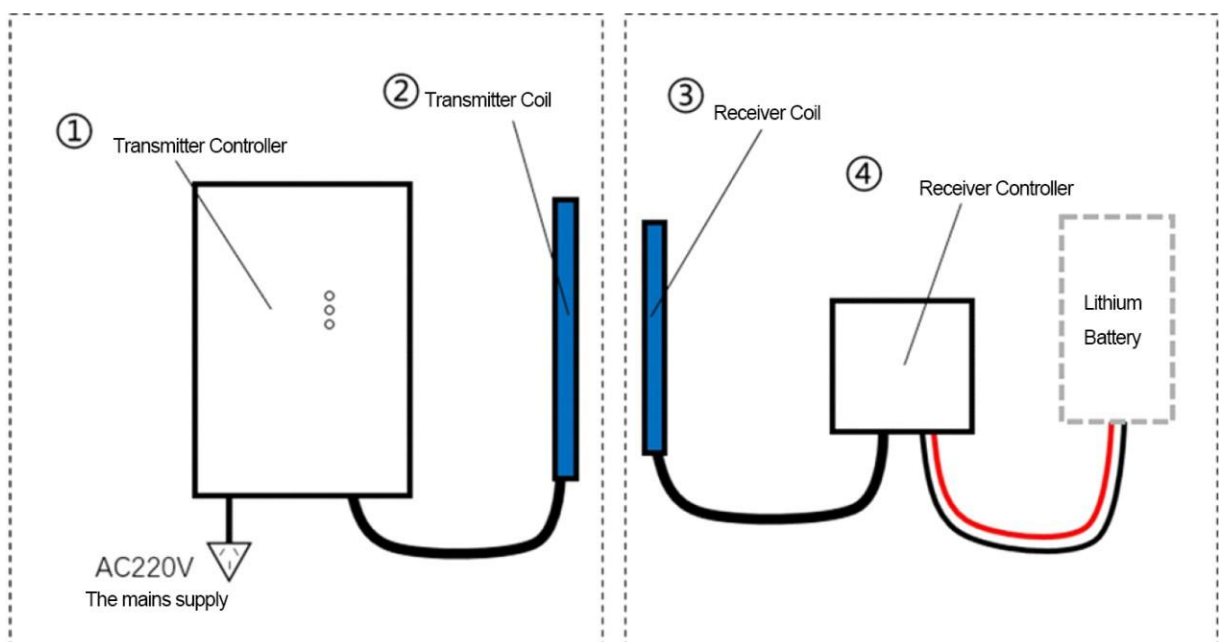

Fig 8 – System wiring diagram
2. Wiring method as shown in Figure 8, the normal working vertical range of the transmitter coil to the receiver coil is 10-30mm (optimal charging distance is 20mm); The single-direction (X or Y) offset is $\pm 20\text{mm}$, and the bidirectional (X and Y simultaneously) offset is $\pm 15\text{mm}$.